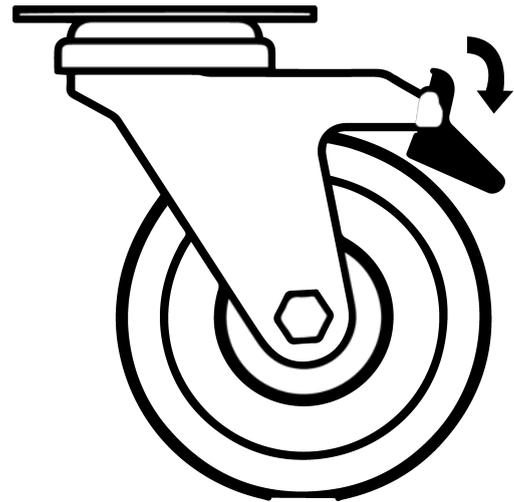

Fig 2. Castor Locked
- Ensure when placing the TMLR-200 into place that the castors can be accessed so they can be locked (**Fig 3**) and unlocked (**Fig 2**). Please contact your supplier or Thermoline should there be any damage to the castors.